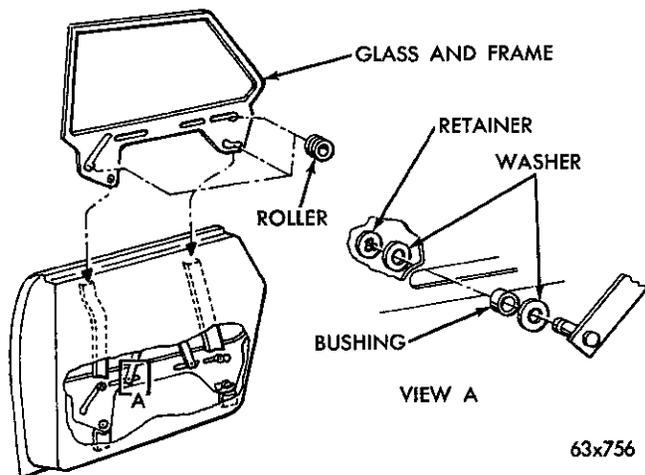

Fig. 72—Rear Door Glass (Chrysler—All Except Sedan)
(2) Work the run channel down into the door and engage the lower end with the door frame.
(3) Work the run channel into place and tuck the upper front end up and against the ventilator frame.
(4) Lubricate the regulator arm pins, rollers and window lower channel guides.
(5) Engage the regulator arms into the glass lower channel and attach the retaining clips.
(6) Operate the glass up and down several times and check for ease of operation.
(7) Inspect and adjust the down stop (The top edge of the door glass should be level or slightly below the door frame).
(8) Install the weather shield, trim panel, inside handles and arm rests (if so equipped).
71. REAR DOOR GLASS (Four Door Hard Top and Town and Country) (Figs. 72 and 73)